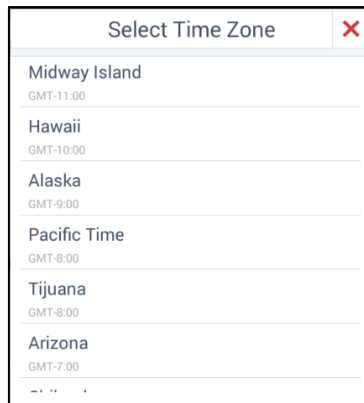

Figure 3.13 Selecting Time Zone
- Click  to select time zone in your location. The pop-up interface is shown in Figure 3.13.